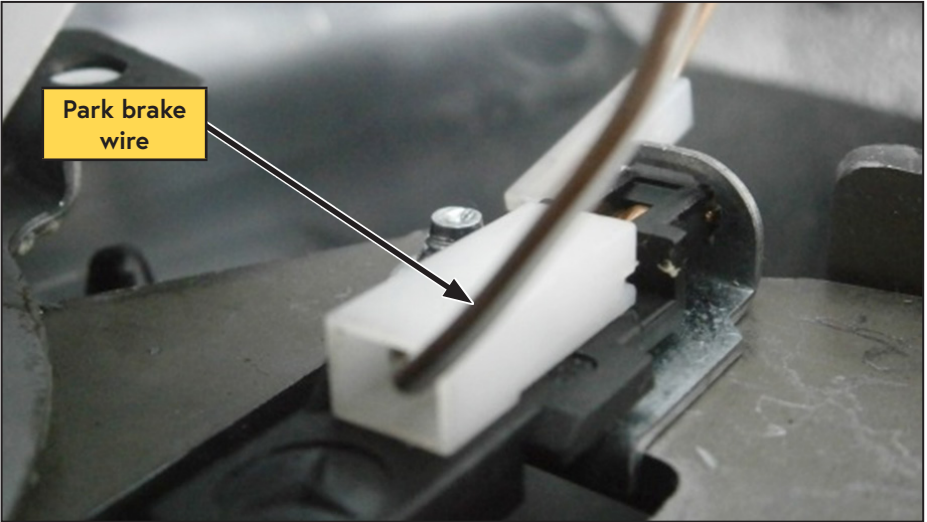

Figure 60 — Park brake wire
- Splice the black wire from the Throttle Control to the brown wire with white strip wire running to the park brake (Figure 60).